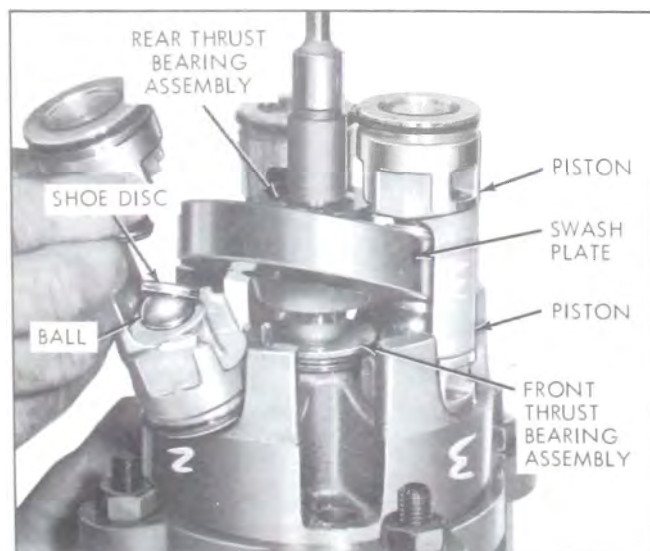

Figure 11-65—Removing Piston Assembly
7. Rotate shaft until a piston is at its highest point. Push up on shaft and remove one piston assembly at a time. See Figure 11-65. Place parts in parts tray to keep them separated.